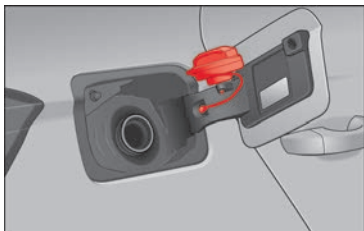

Fig. 63 Fuel tank flap with tank cap attached.
- Place it in the space on the hinge of the open flap » **Fig. 63**.